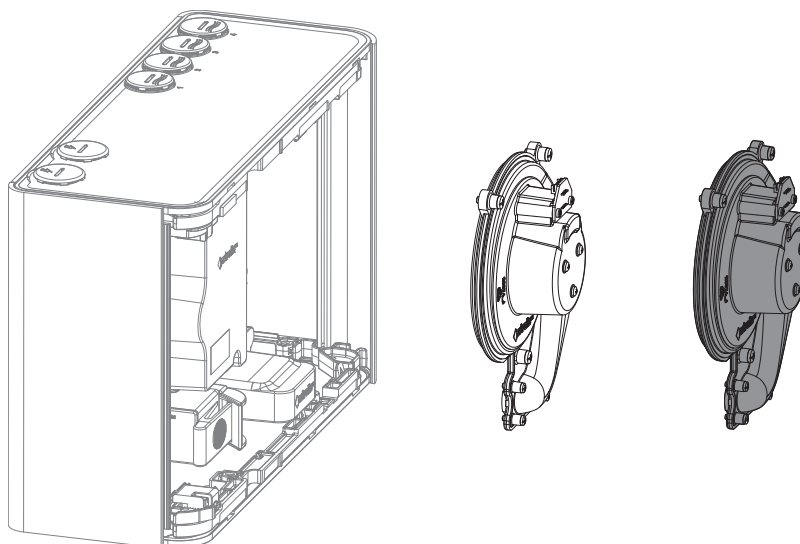

Figure 7-12: Remove aspirator from the detector
5. Remove the aspirator perpendicular to the detector body (Figure 7-12).